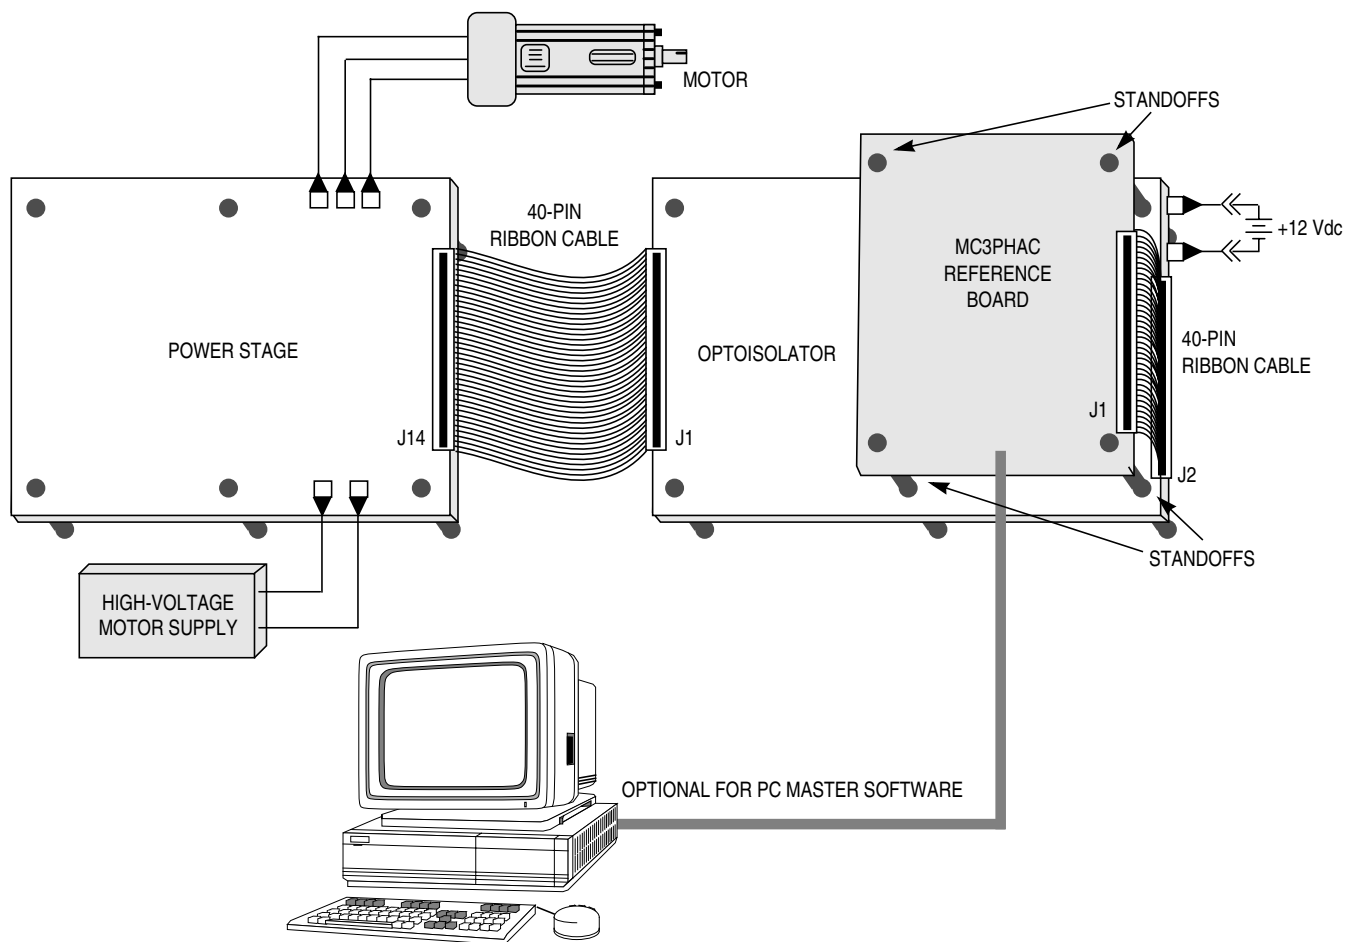

Figure 1-5. System Setup
The reference PC board is powered through the 40-pin ribbon cable, regardless of whether it is connected to the optoisolation board or connected directly to a high-voltage power stage. A 12-volt/4-amp power supply provides power for the reference PC board side of the optoisolation board. **Figure 1-5** depicts a completed system setup.
1. Mount four standoffs to the optoisolation board at the locations indicated in **Figure 1-5**. Standoffs, screws, and washers are included with the optoisolation board.
6. Connect a 40-pin ribbon cable between the optoisolation board's connector J1 and the power stage's connector J14, as indicated in **Figure 1-5**.
7. Connect the three motor leads to the power stage as indicated in **Figure 1-5**.